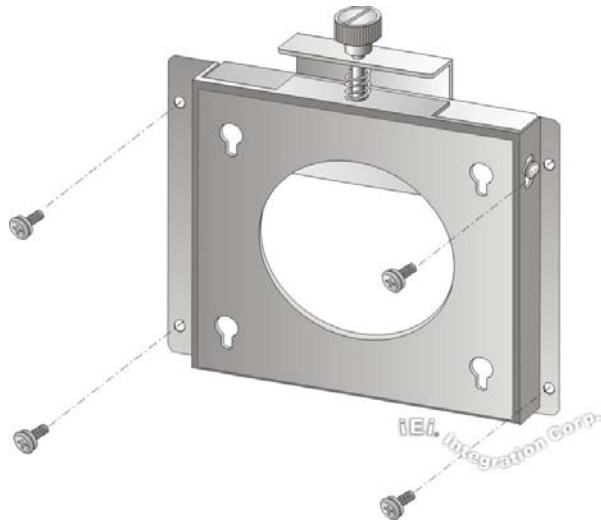

Figure 3-7: Wall-mounting Bracket
- Step 5:** Secure the mounting-bracket to the wall by inserting the retention screws into the four pilot holes and tightening them (Figure 3-7).